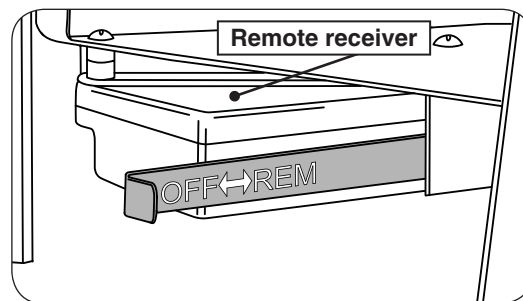

Fig. 33-1
1. Locate the OFF/REMOTE switch actuator on the left rear of the burner. Slide the actuator to the left / **OFF** position. See Fig. 33-1.